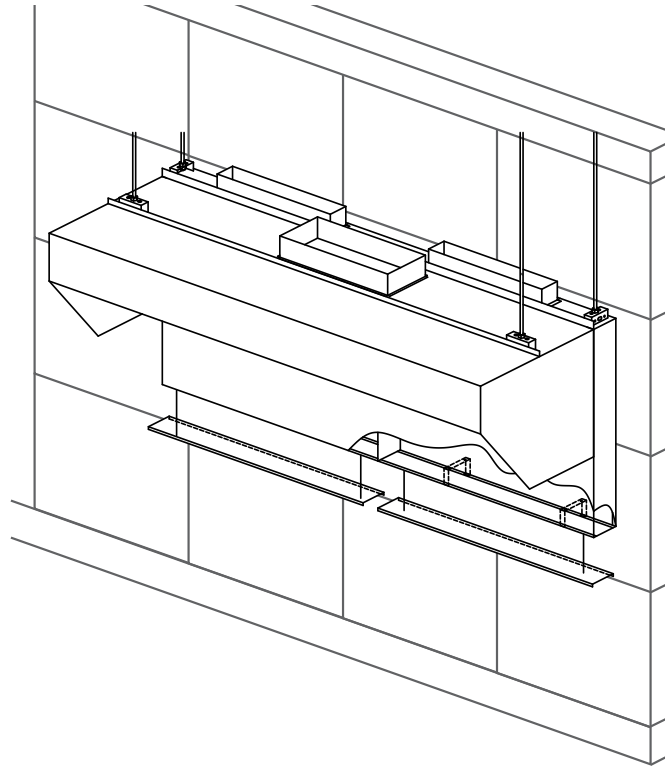

Fig. 13
1. Lift the hood and position it so the top of the hood is even with the back supply (Fig. 13). This height should correspond to the UL hanging height of the hood.